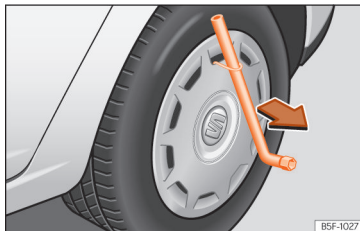

Fig. 42 Remove the wheel cover.
- Insert the box spanner through the hook, rest it on the tyre and remove the wheel trim » **Fig. 42**.